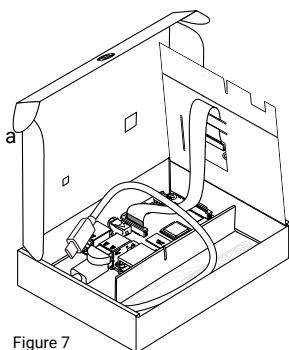

Figure 7
- 19 Carefully lift the internal frame along with the Raspberry Pi and place it into the box so the board's plugs poke through the side slots. Pinch the middle divider so it's upright and bend the USB cable to the right, as shown in figure 7 (it is a very tight fit).